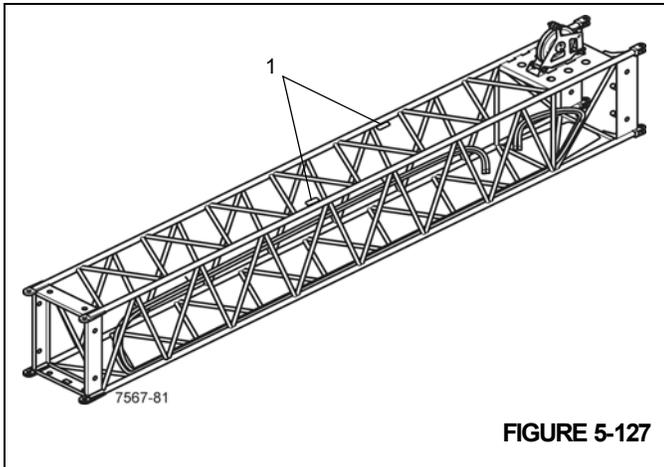

FIGURE 5-127
3. Connect a sling to the two lifting lugs (1), (Figure 5-127).
3. Connect a sling to the two lifting lugs (1), (Figure 5-127) and lift the insert enough to take the load off the connecting pins.